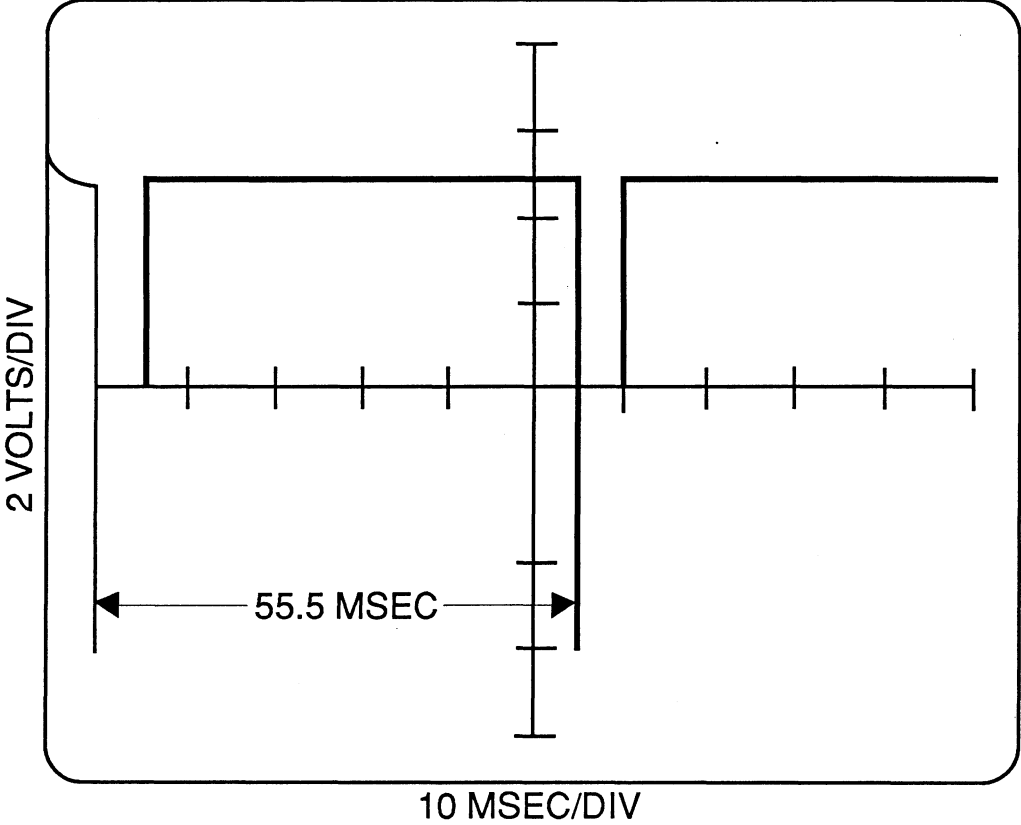

Figure 5-6. Print Speed Adjustment Waveform
10. Adjust the print speed (R11) until the time interval shown in the waveform diagram in Figure 5-6 is 55.5 ms +/- 1 ms.